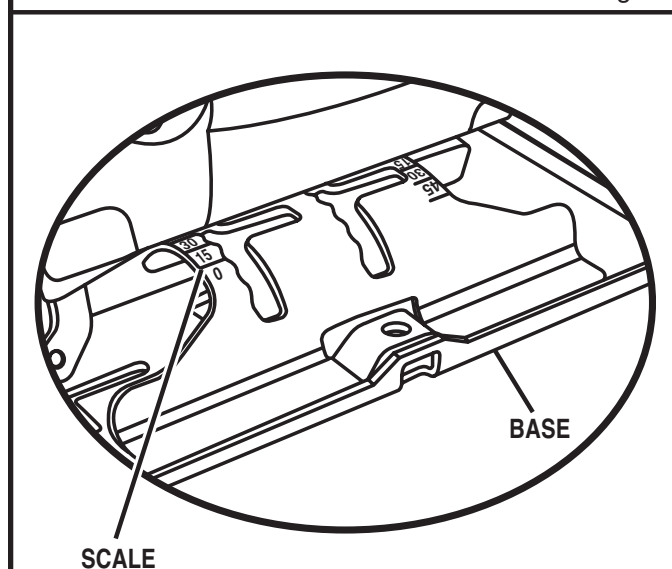

Fig. 7
- Once the desired angle is reached, slide base back until tab on motor housing aligns with the appropriate notch on rear of base. See Figure 7.